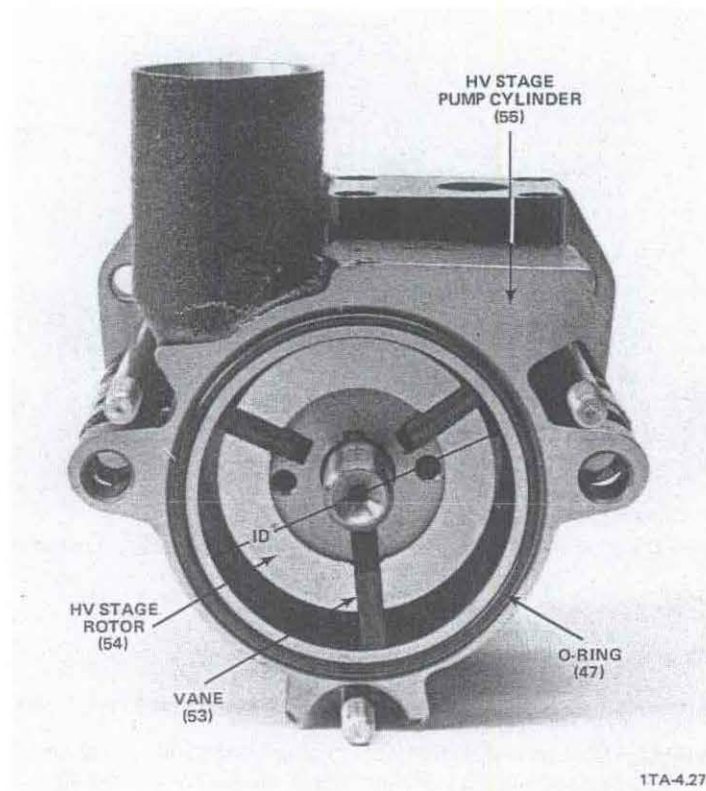

Figure 5-7. High Vacuum (HV) Stage Pump Cylinder (D2A Pump Model Shown)
REQUIRED ACTION: Using long nose pliers, remove the three vanes (53) from the high vacuum rotor (54). (See Figure 5-7).
- C-12** Remove the high vacuum stage pump cylinder (55) to expose the high vacuum rotor (54) and the center bearing (52). Remove the O-rings (47) from both sides of this pump cylinder (see Figure 5-7).
NOTE: Two threaded metric pulling holes are located in the outside end of the high vacuum rotor (54) for use with a puller (see Figure 5-7).